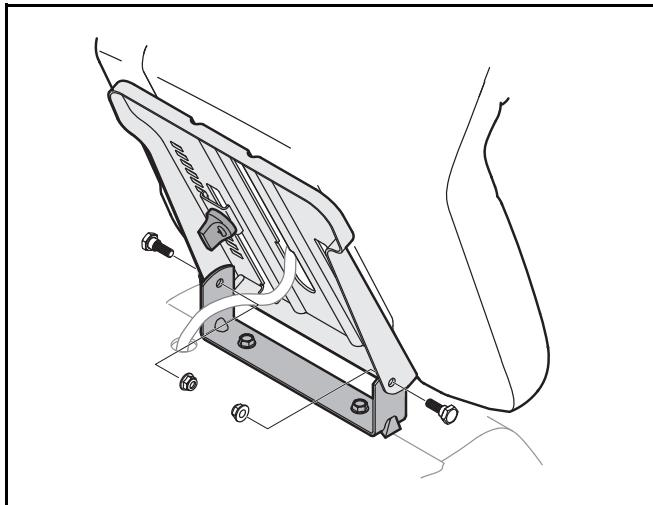

Figure 3
2. Align the front holes of the seat mounting bracket with the holes in the seat pivot bracket on your tractor and secure with previously removed hex screws and nuts. See Figure 3.
3. To adjust the position of the seat loosen the knob on the bottom of the seat. See Figure 3. Slide the seat forward or backward as desired. Retighten the knob.